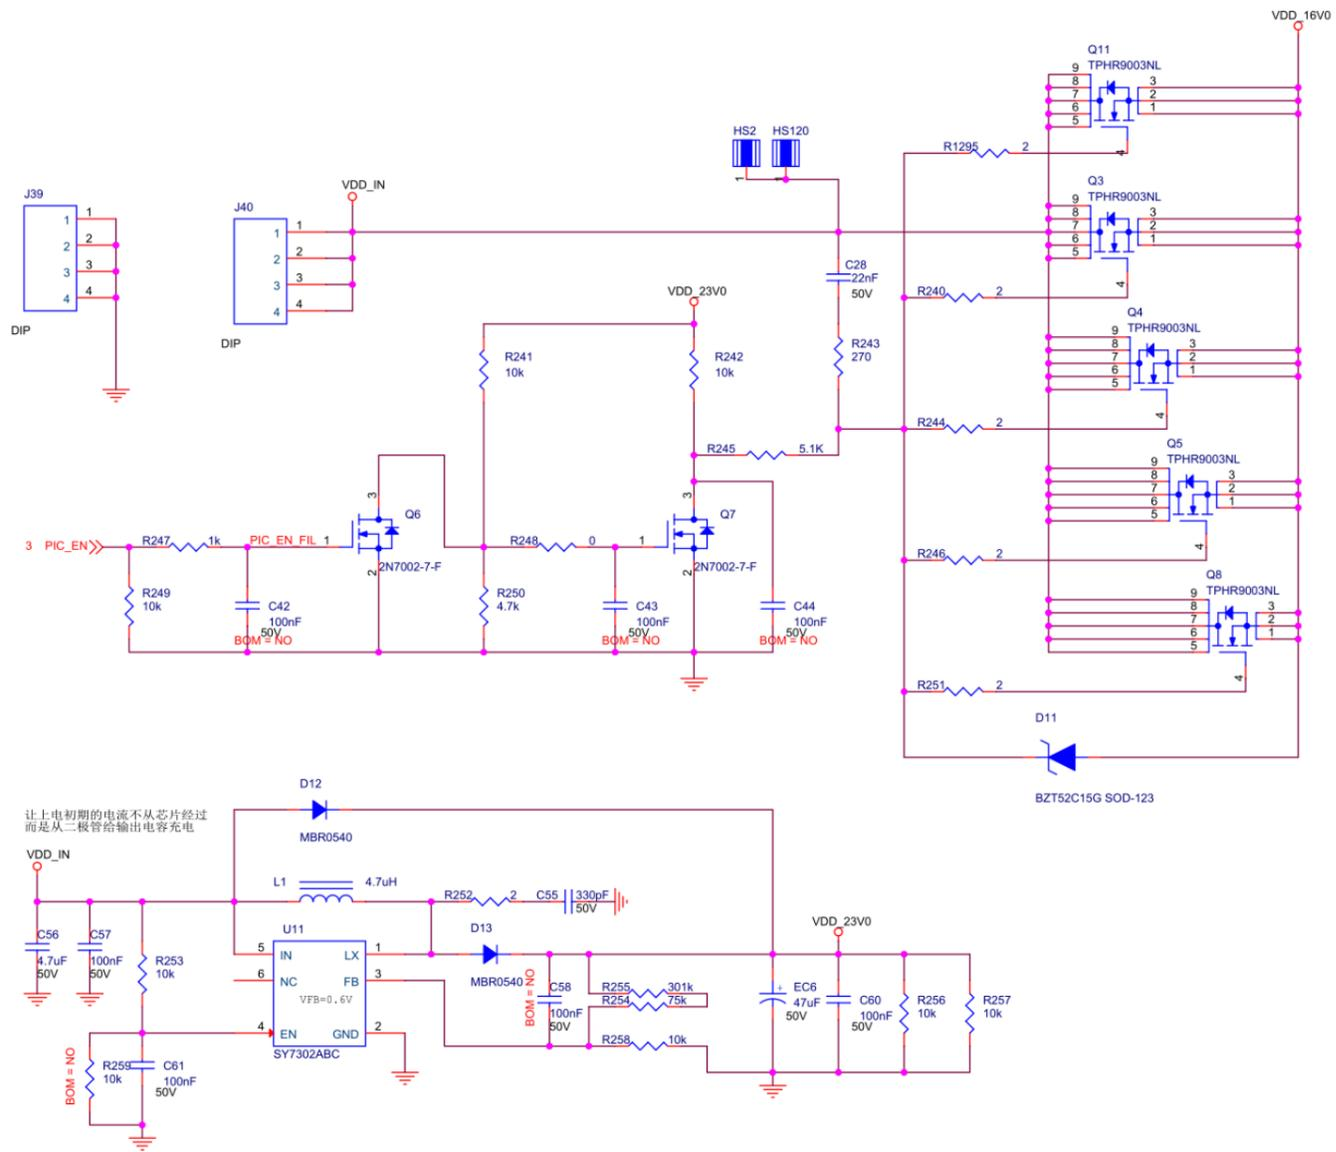

Figure 5-1
Step 1: check the power output first, please check the Figure 5-1.